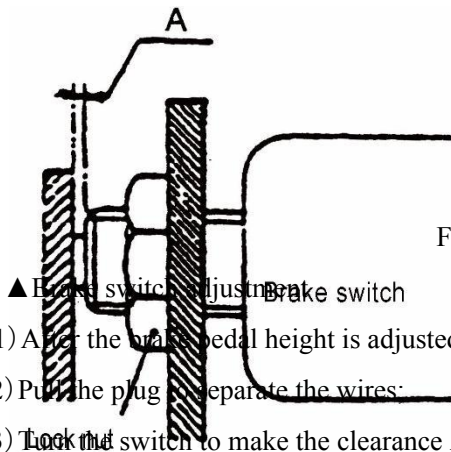

Fig.2-28
- (1) Push the rod of the brake master cylinder outward;
- (2) Adjust the stop bolt, as shown in Fig. 2-28, and adjust the pedal height;
- (3) Step down the brake pedal and lengthen the push rod until the front end of the push rod contacts the master cylinder piston;
(4) Tighten the push rod lock nut.